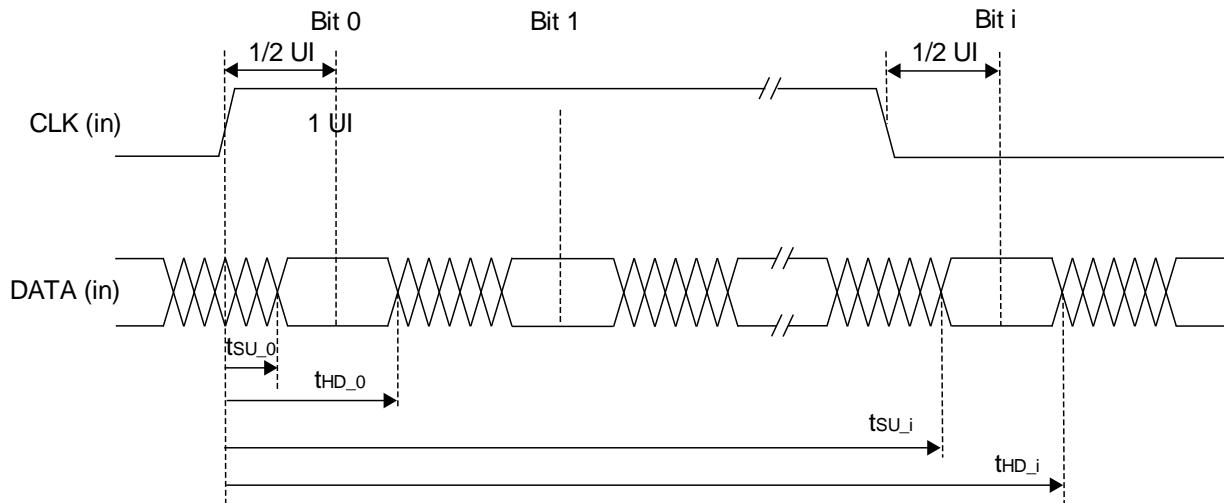
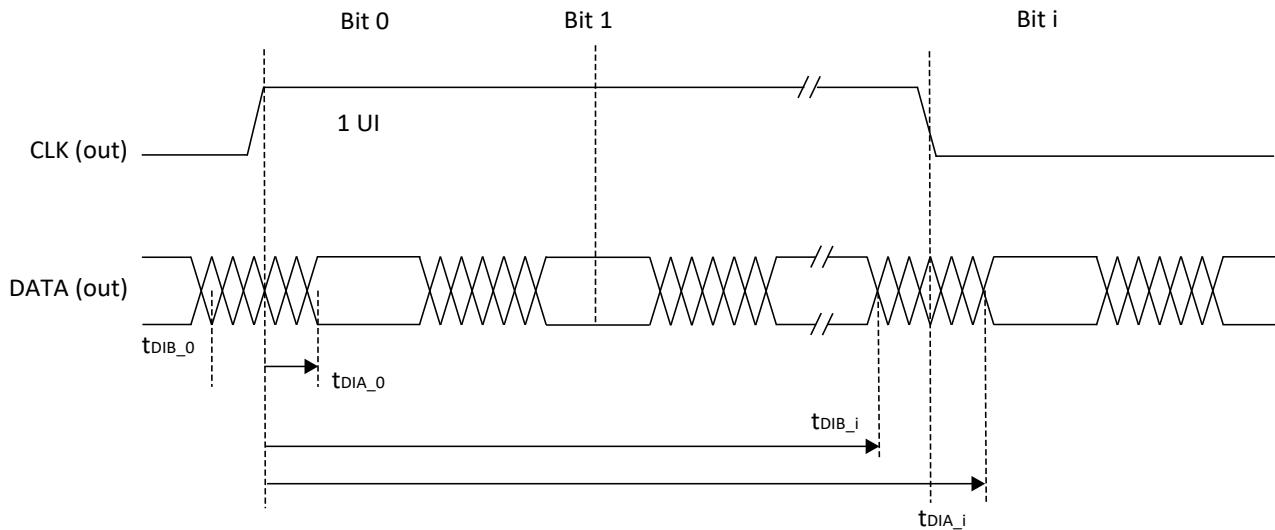

Figure 3.12. Receiver DDRX71\_RX Waveforms
Figure 3.13. Transmitter DDRX71\_TX Waveforms
**Video DDRX71 Inputs/Outputs with Clock and Data Aligned at Pin (GDDRX71\_RX.ECLK) using PLL Clock Input – Figure 3.12 and Figure 3.13**